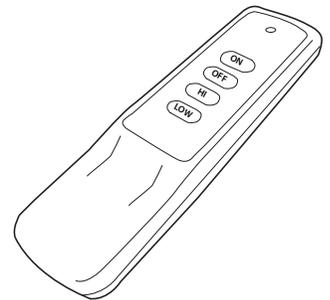

Fig. 11 Transmitter
2. The wiring extending from the valve box is a 12-foot special 4-pin connector that connects to the battery pack and (2) two additional wires with $\frac{1}{4}$ " female connectors. A complete wiring diagram (Fig.11) is located on page 12.